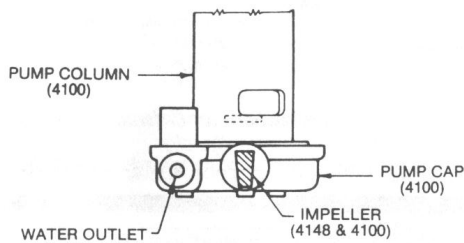

Fig. 1
- Position the impeller properly in the center of the pump cap. The impeller must have the black marking up towards the motor. (Fig. 1)
- Open water outlet in the pump cap with 5/32" drill bit. (Fig. 1)